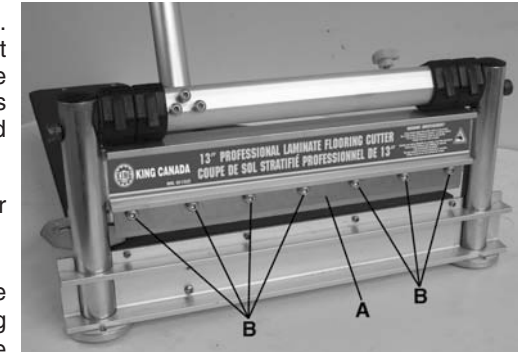

Figure 7
1. To remove the knife (A) Fig.7, remove the seven allen head screws (B) using the supplied hex. key. Carefully remove the knife.